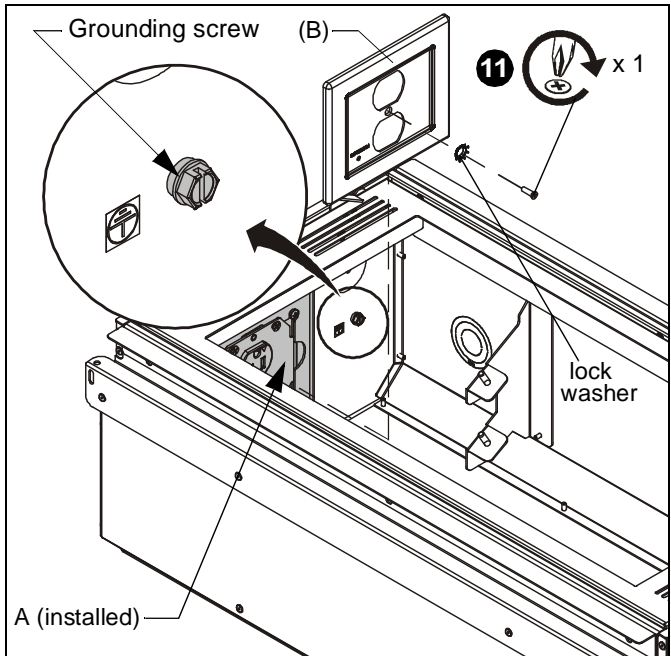

Figure 5
9. Make sure grounding screw is properly installed. (See Figure 5)
11. Install faceplate (B) onto EGX-SF2 using one 6-32 x 1/2" Phillips flat head screw and lock washer previously removed from front of box. (See Figure 5) or (See Figure 7)